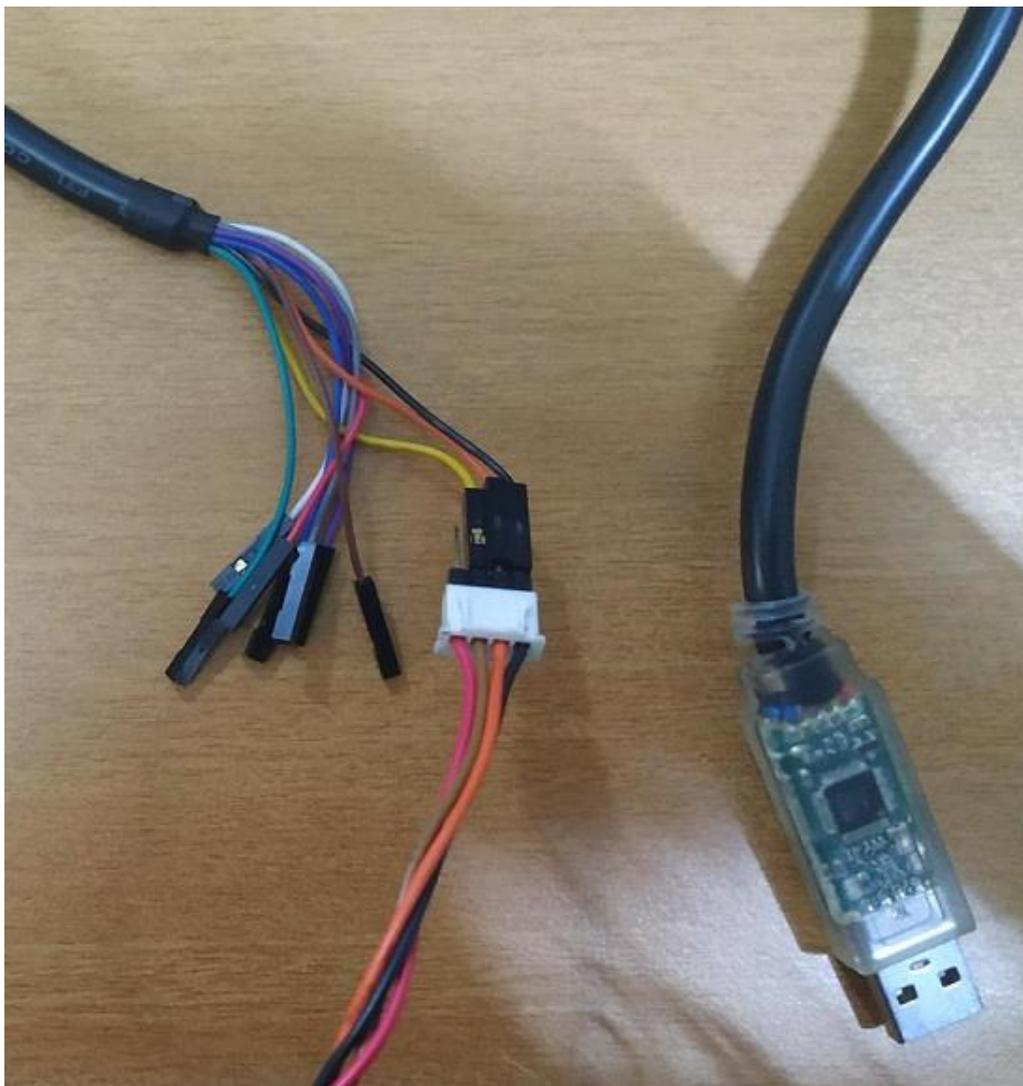

Figure 9 USB- Serial Cable
- Figure 9 shows the USB-Serial Cable connect.